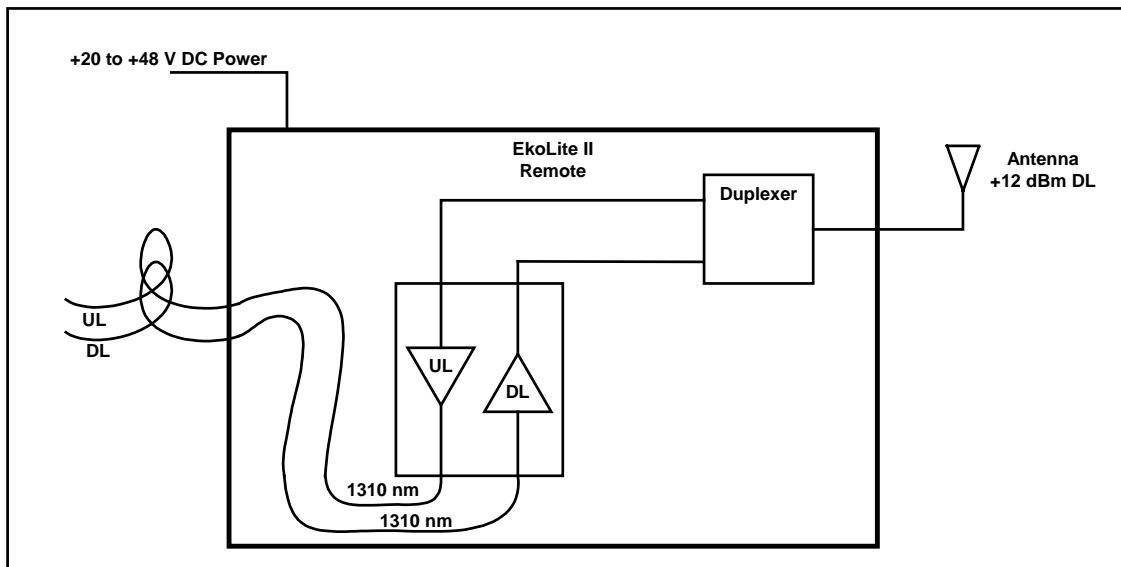
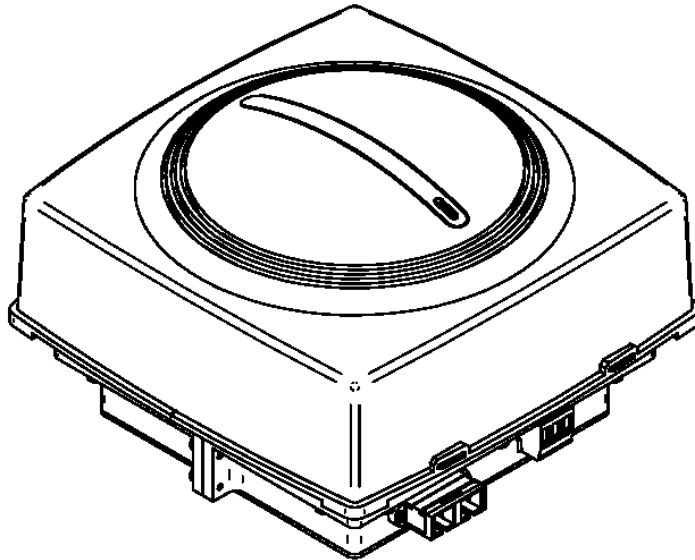

Figure 3. EkoLite II Remote Unit Block Diagram.
Figure 4. EkoLite II Remote
- Figure 3: EkoLite II Remote Unit Block Diagram
The remote is designed to convert the Fiber Optic Signals to/from RF and transmit those signals to/from the Hub. Figure 3 is a functional diagram of the EkoLite II remote. Figure 4 is a pictorial view of the remote.